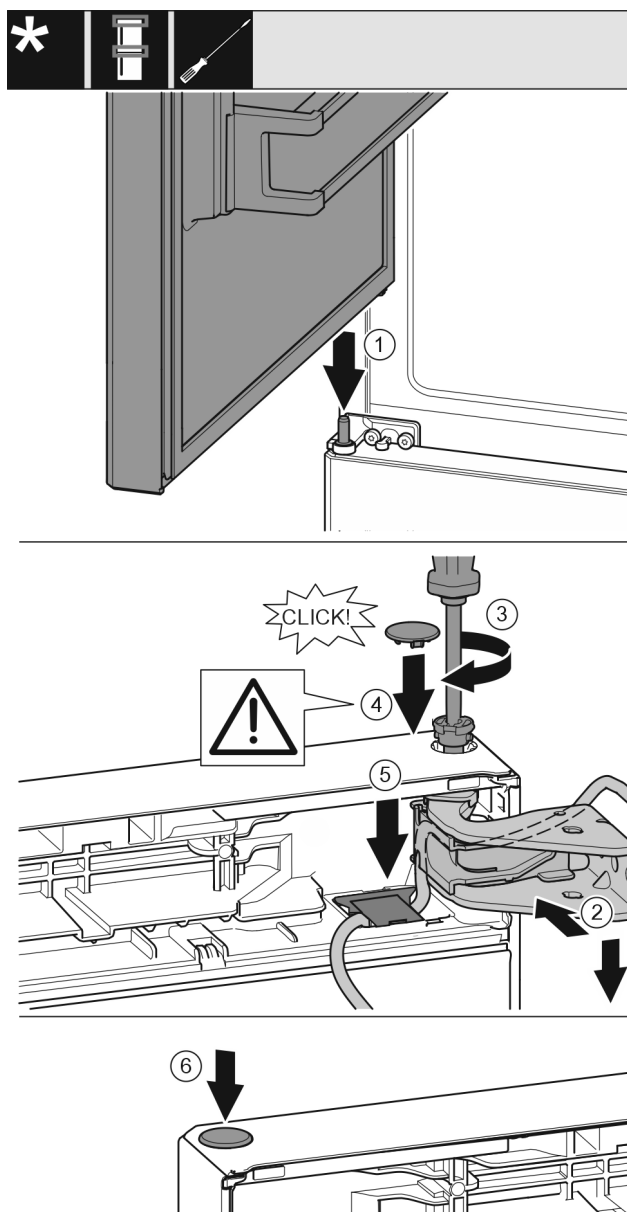

Fig. 30
- Place the upper door on the centre bearing pins Fig. 30 (1)
- Align the top of the door with opening in the bearing bracket. Fig. 30 (2)
- Insert the bolt and tighten with a T15 screwdriver. Fig. 30 (3)
- Fit the protective cover to protect the door: Insert the protective cover and check that it is flush to the door. If not, insert the bolt fully. Fig. 30 (4)
- Place on the cover and press it down until it latches into place. Fig. 30 (5)
- Insert the plugs. Fig. 30 (6)